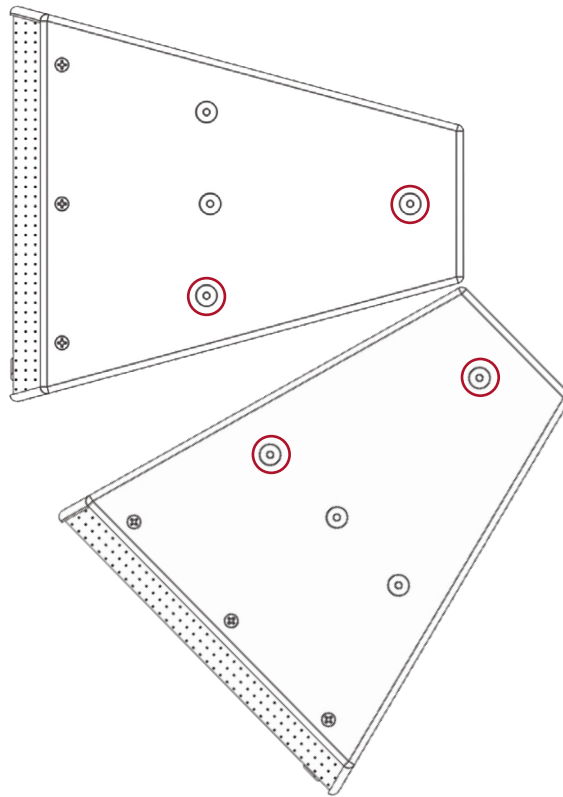

Figure 1 - Remove screws from MKD1000 cabinets
2. Remove screws from MKD cabinets as shown in Figure 1.